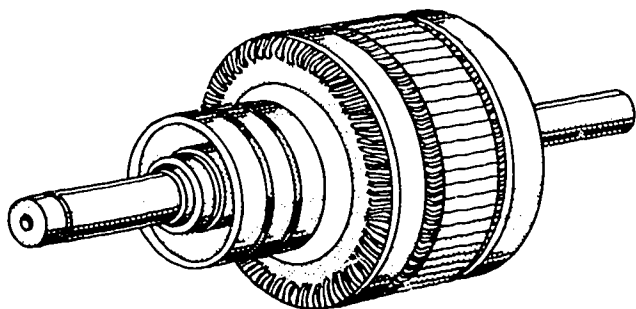

Figure 1-6. Three-phase wound rotor.
b. **Wound Rotor.** The wound rotor in figure 1-6 has a laminated silicon steel core mounted on a shaft. The rotor windings are made of coils of copper wire similar to those used in the stator. The windings are connected, wye or delta, and the other ends of the windings are connected to sliprings and are connected externally to resistors for variable speed control and low starting current.